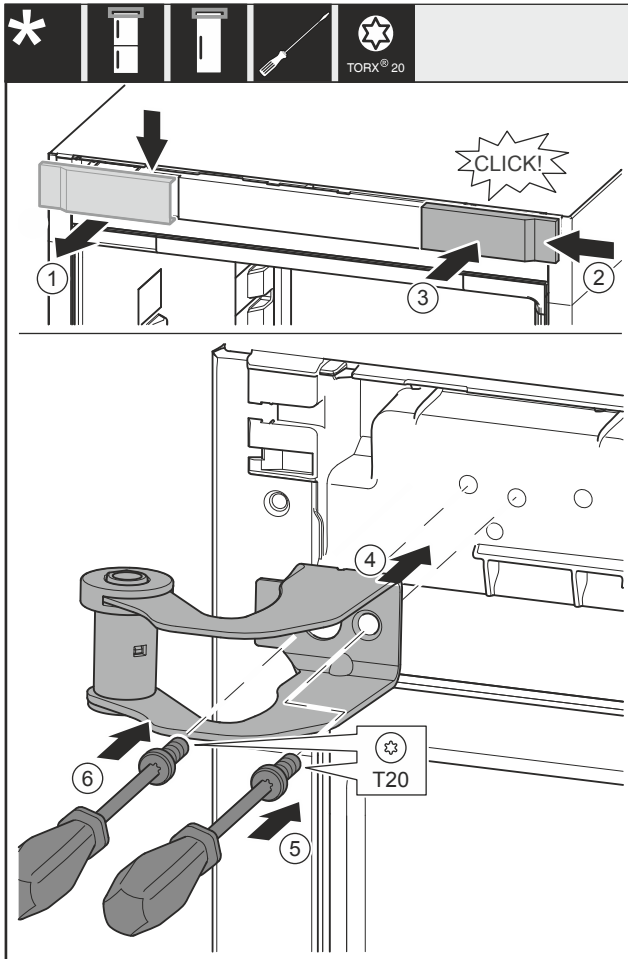

Fig. 20
- ▶ Remove the cover Fig. 20 (1) from above towards the front.
- ▶ Turn the cover Fig. 20 (2) by 180° and attach to the other side from the right.
- ▶ Engage the cover Fig. 20 (3).
- ▶ Place the top swap bearing block Fig. 20 (4).
- ▶ Screw the screw Fig. 20 (5) tight.
- ▶ Screw the screw Fig. 20 (6) tight.